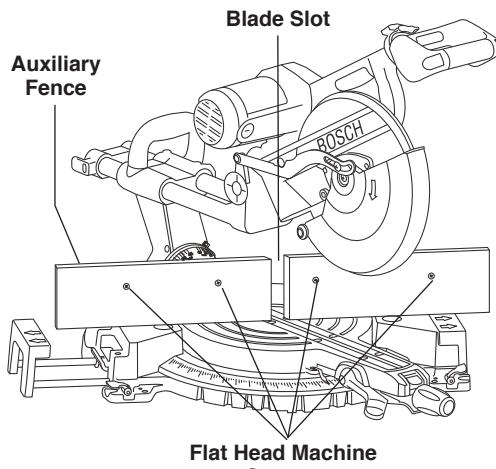

Figure 24. Auxiliary Fence
1. Place a piece of wood against the miter saw fence (Figure 24). (Wood can have a maximum height of 4-1/2"). Check that auxiliary fence assembly does not interfere with head assembly.